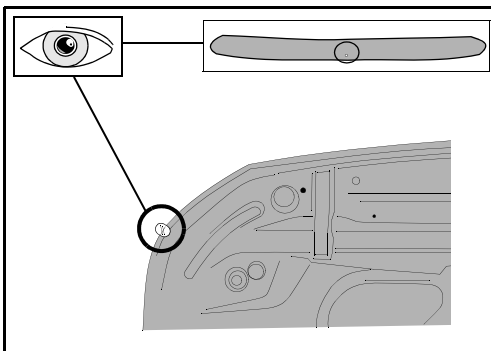

Figure 10.
10. Note the outer holes in Hood Protector as shown in Figure 10. Raise and support the hood so it is slightly open. Slightly lift front edge of Hood Protector.